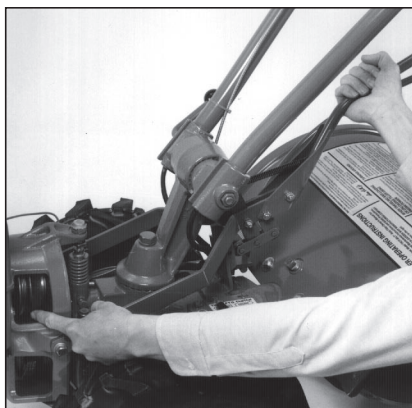

Figure 4-12: High range to low range. Shows moving belt from top-front groove onto top-rear pulley groove.
3. Stand on left side of tiller. Use your right hand to hold the Wheels/Tines/PTO Drive Lever up into REVERSE position. Use your left hand to move the belt off top-front engine pulley groove to top-rear engine pulley groove (Figure 4-12).